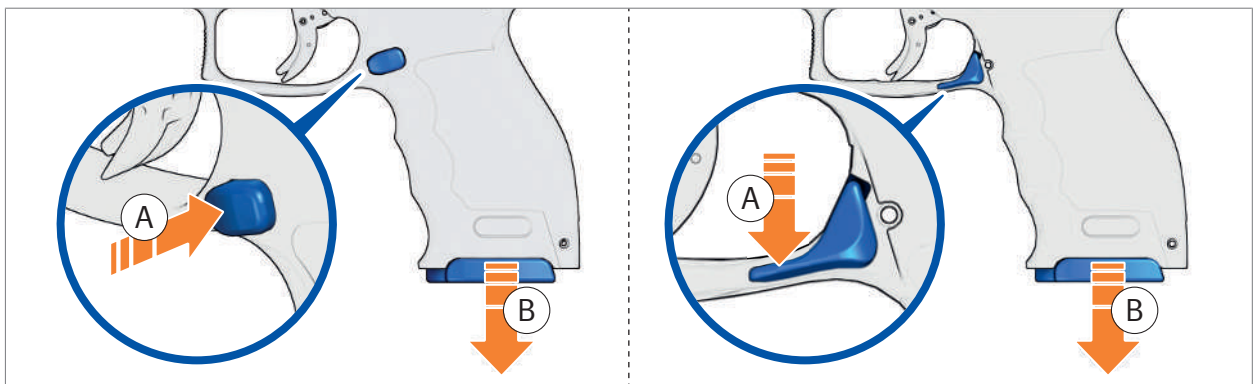

Fig. 57: Remove magazine
2. Press magazine catch (Fig. 57).
3. Remove magazine (Fig. 57).